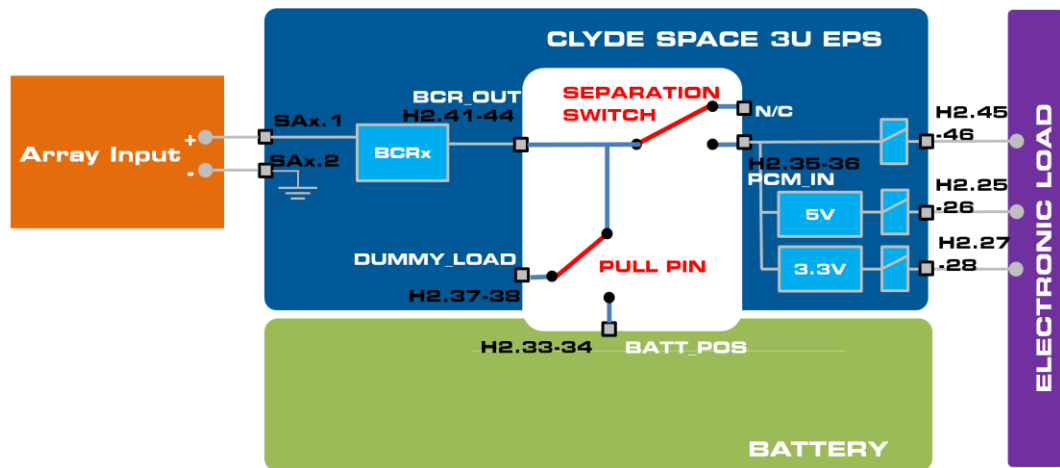

Figure 12-1 Suggested Test Setup
- Breakout Connector (with connections as per Figure 12-1)
- Breakout connector assembled with switches set to launch vehicle configuration (as shown in Figure 12-1)